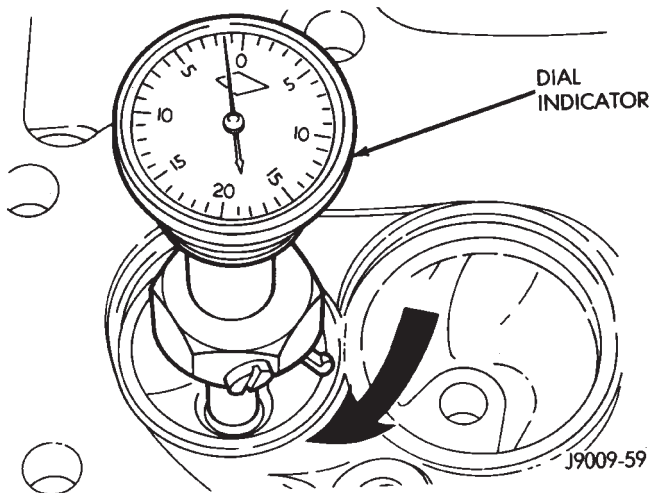

Fig. 9 Measurement of Valve Seat Runout
(1) Install a pilot of the correct size in the valve guide bore. Reface the valve seat to the specified angle with a good dressing stone. Remove only enough metal to provide a smooth finish.
(2) Use tapered stones to obtain the specified seat width when required.
(3) Control valve seat runout to a maximum of 0.0635 mm (0.0025 in.) (Fig. 9).